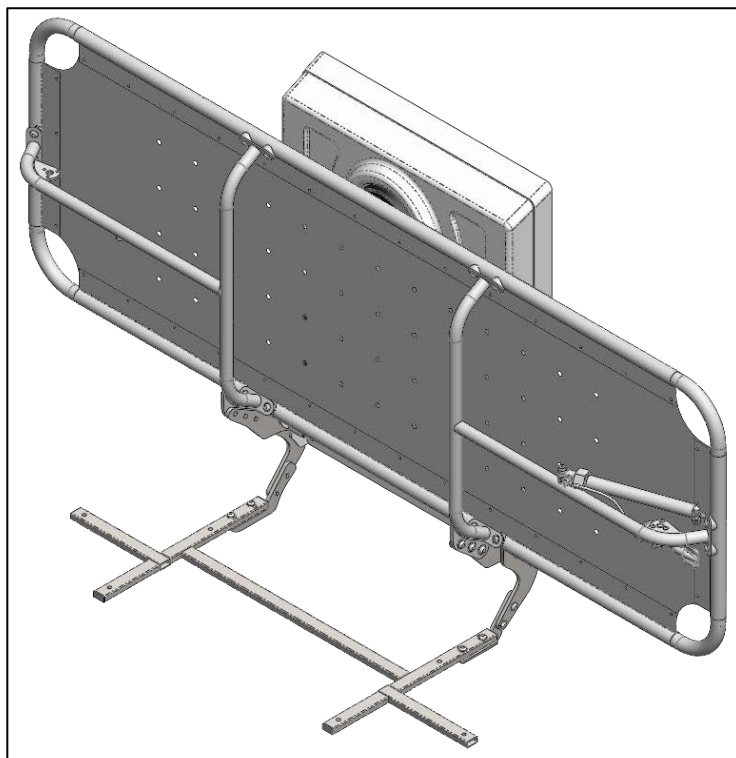

Fig.4
- The product should look similar to the image shown in Fig.4.